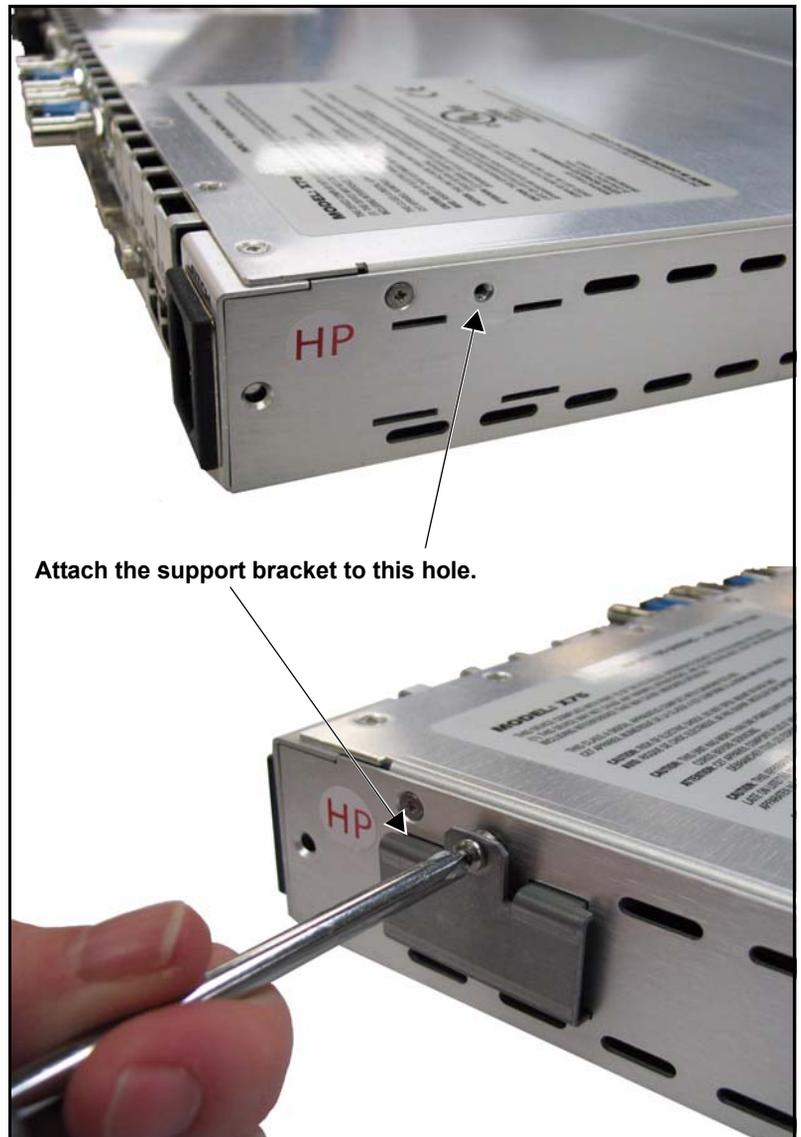

Figure 4-2. Bracket Installation
2. Attach the brackets to the sides of the frame using the screws that are provided. (See Figure 4-2 on page 83.)